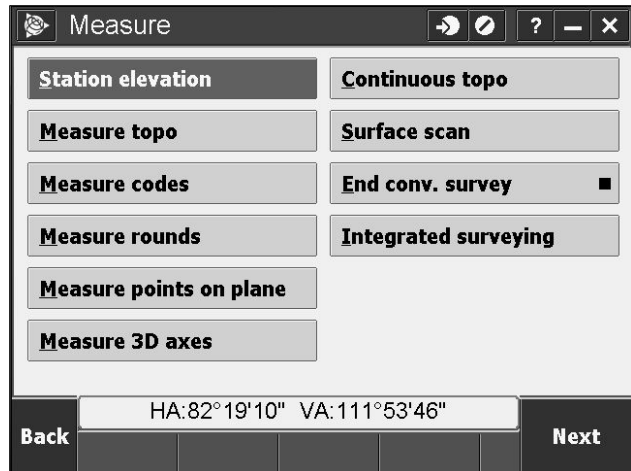

Figure 15. Measure menu once the total station position and backsight have been recorded.
6. The TS is now ready to begin collecting data (Figure 15). See SOP 1.2.18 *Using a Total Station to Conduct a Stream Survey—Version 1.0* (McDonald et al. 2022) for details about surveying detailed transects.
7. Once all the points are recorded be sure to Measure => End Conventional Survey (Figure 15) to save the points.